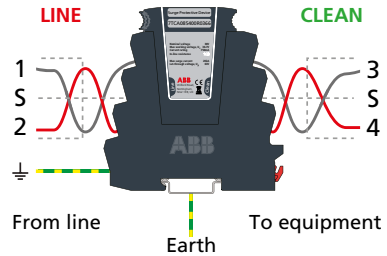

Figure 1a: Series connection of OVR SL** Series, OVR SL**L Series, OVR SL TN, OVR SL 4-20 mA and OVR SL RS485.
OVR SPDs are connected in-line (series) with the data communication, signal, measurement, or telephone line (see Figures 1a & 1b).
The clean end of the OVR SPD should be connected to the cabling going to the protected equipment (see Figures 1a & 1b). Cable screens are connected to earth (DIN rail & earth terminal) via the terminals marked S, except the OVR SL**/3W Series & OVR SL RTD where the screen could be connected to the earth terminal marked \perp . The screw terminals should be tightened between 0.5-0.8 Nm torque (do not exceed 0.8 Nm).
- By connecting an earth cable to the OVR SPD via the unit's earth terminal marked \perp (see Figures 1a & 1b)